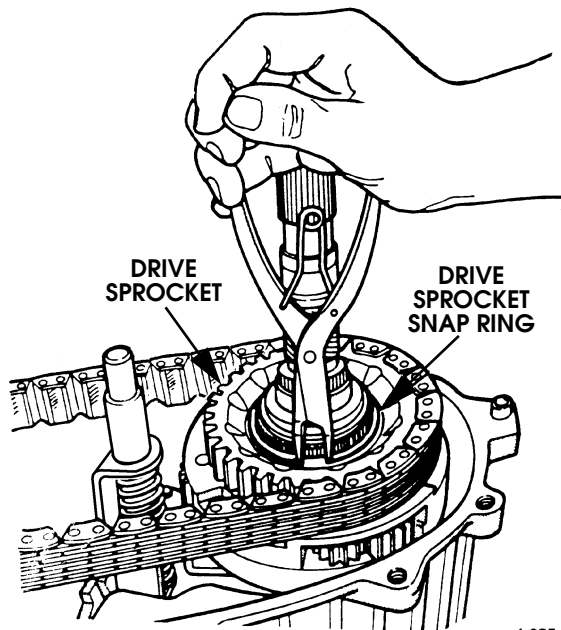

Figure 5-91: Drive Sprocket Snap Ring Removal/Installation
11. Remove drive sprocket snap ring (Figure 5-91).